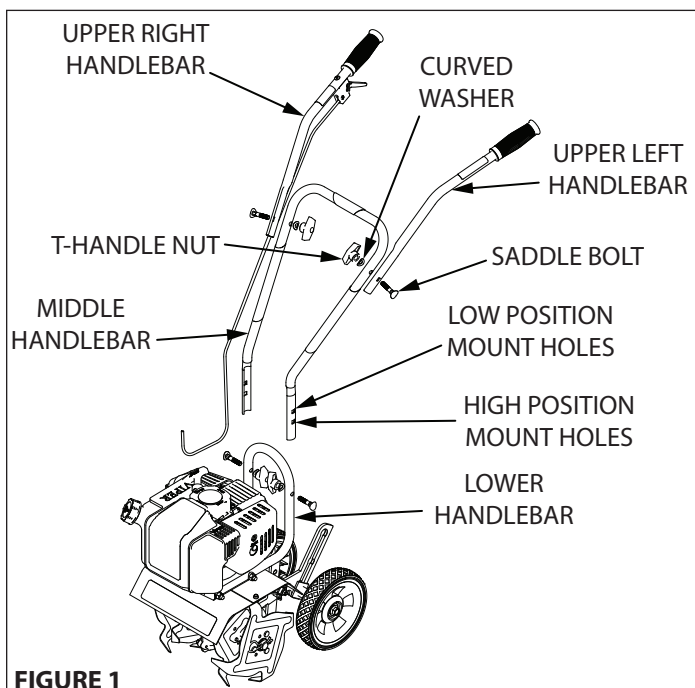

FIGURE 1
- Using two T-handle nuts, two saddle bolts, and two curved washers, attach the middle handlebar to the lower handlebar that is already connected to the cultivator assembly. The middle handlebar can be installed in one of two positions, one high and one low. **DO NOT** overtighten the T-handle nuts. **SEE FIGURE 1**
- Attach the upper right and left handlebars to the middle handlebar using the two remaining T-handle nuts, saddle bolts, and curved washers. **SEE FIGURE 1. DO NOT overtighten the T-handle nuts.**